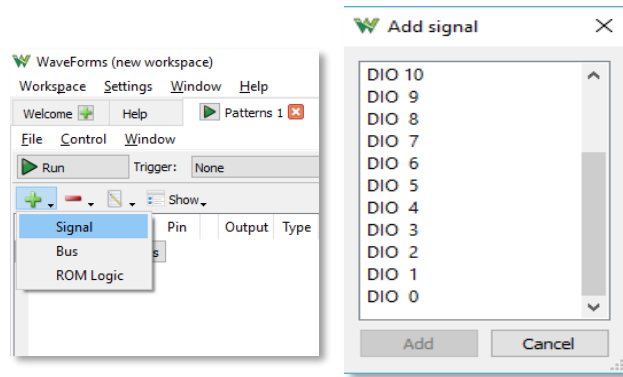

Figure 5. Adding a signal in WaveForms Digital Input mode
- Add → Signal → select DIO 0, as shown in Figure 5